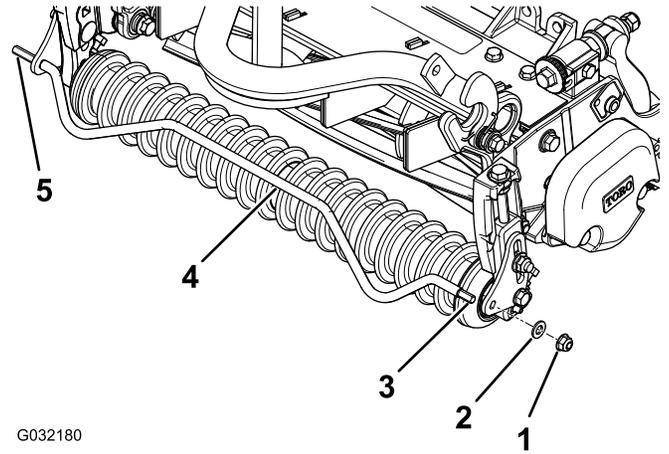

Figure 8
2. Insert the non-threaded end of the basket rod into the hole in a basket plate (Figure 8).
3. Align the threaded end of the basket rod (Figure 8) with the hole in the other basket plate.
4. Insert the basket rod through the hole, and install a washer and a flange nut on the threaded end of the rod (Figure 8).